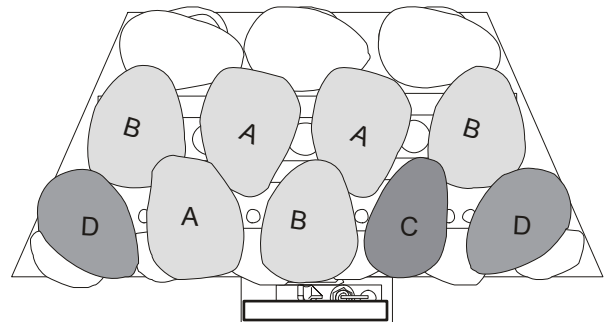

Figure 28
3. Place pebbles **A, B, C & D** in position as shown in **Figure 28**.